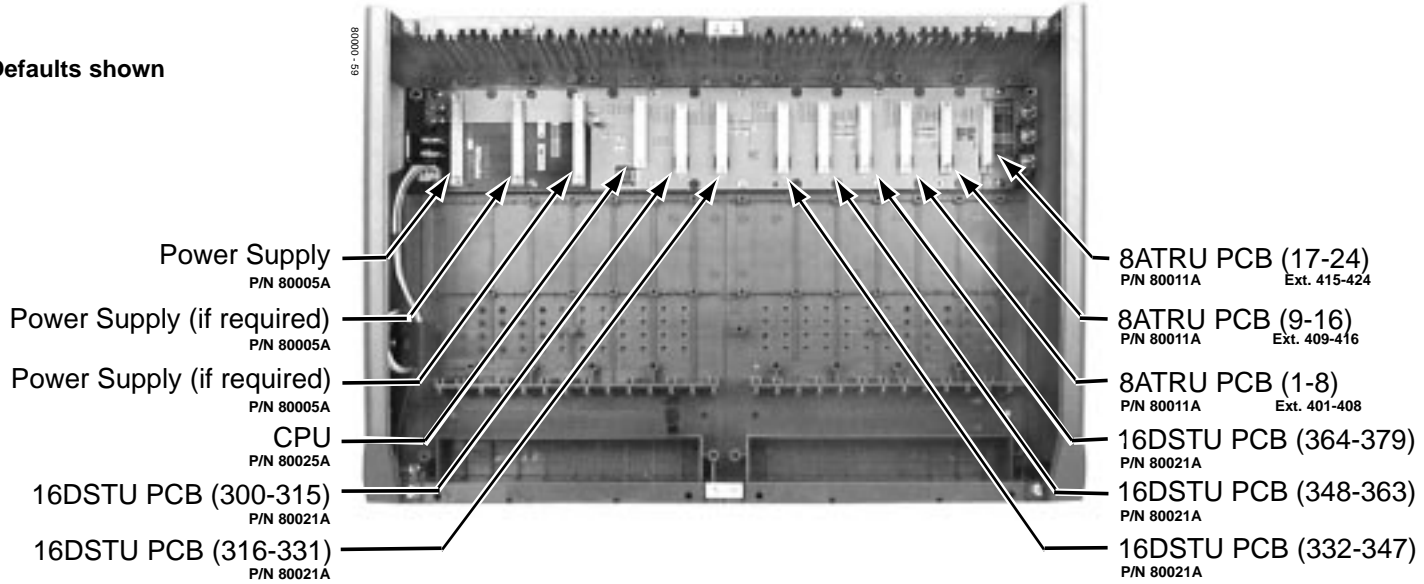

Figure 2-2 8 SLOT PCB LOCATION
- When Installing PCBs in a U Slot 8 slot system, follow Figure 2-2. You **must** install a 16DSTU in slot CN1.